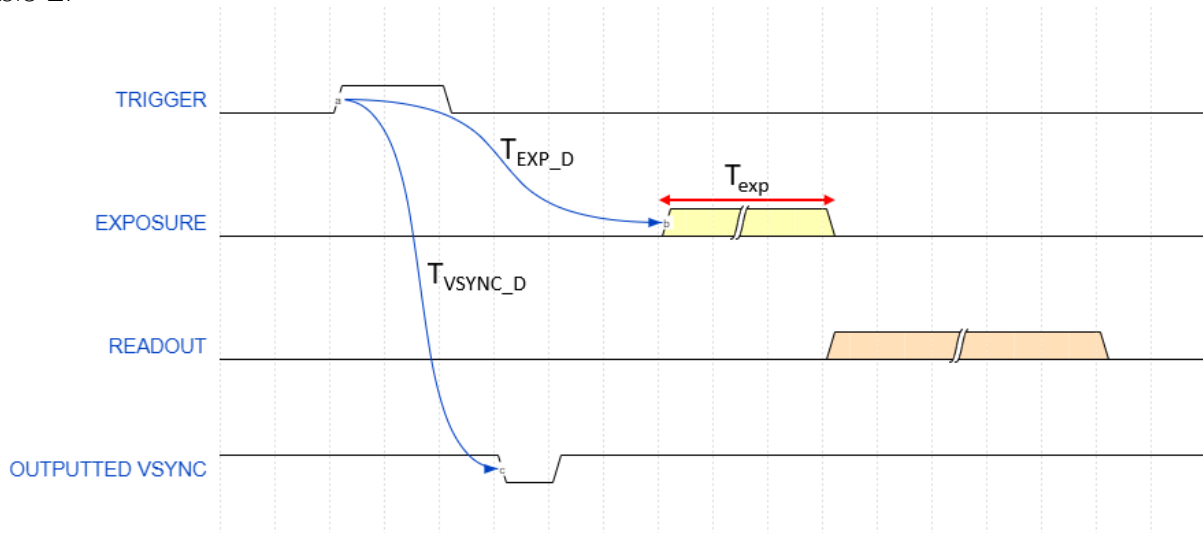

Figure 6 – Delay from Input Pulse to Start Of The Exposure
The internal signal propagation delay is an additional delay between the input pulse and start of the exposure, as shown on the Figure 6. This delay varies for different stream profiles, as shown in Table 2.
**Information:** When operating in Genlock mode, **VSYNC** represents the start of the frame generation sequence (not start of exposure or start of readout, as shown on the Figure 6).